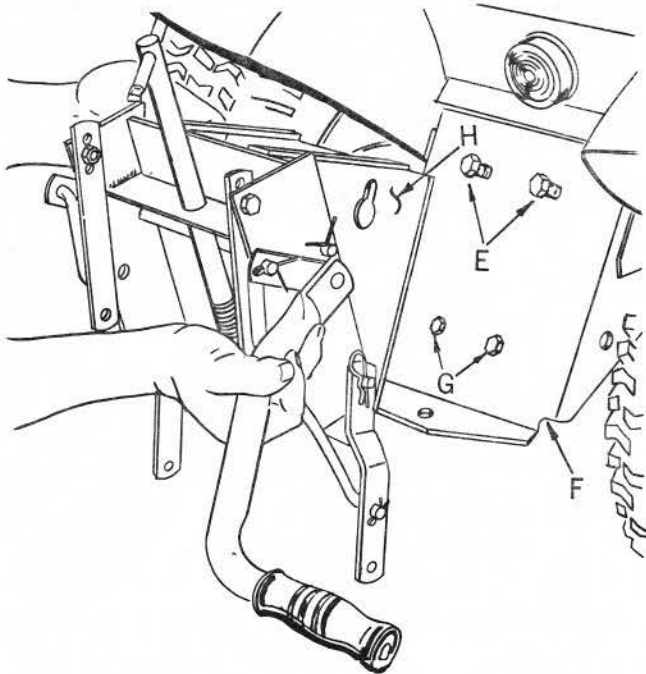

FIG. 3
- Raise lift screw and handle (I), and place a $\frac{13}{32} \times \frac{13}{16}$ flat washer over the hole on tractor drawbar. Lower lift screw and handle (I), so that lift screw enters hole in washer and hole in tractor drawbar. Place the other $\frac{13}{32} \times \frac{13}{16}$ flat washer over lift screw beneath drawbar and secure with cotter pin (J). Washers and cotter pin shipped in bag of hardware. Tighten the four bolts (E and G, Fig. 3), securely. Check to see that lift screw (I), turns freely.